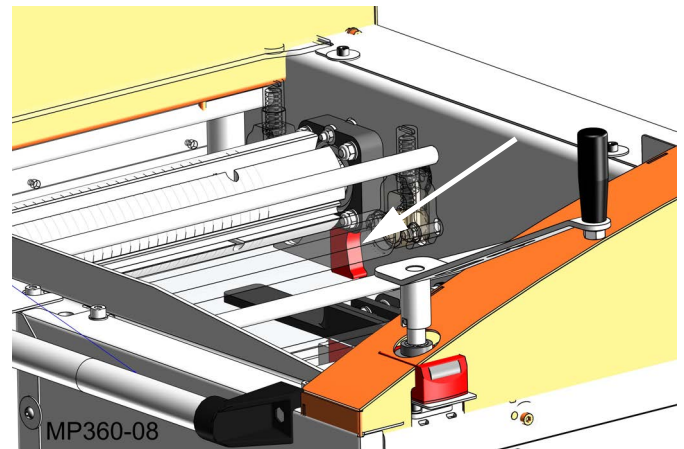

FIG. 3-9
2. Place a **level** spacer on the machine table directly under the cutter head mount. See FIG. 3-9.